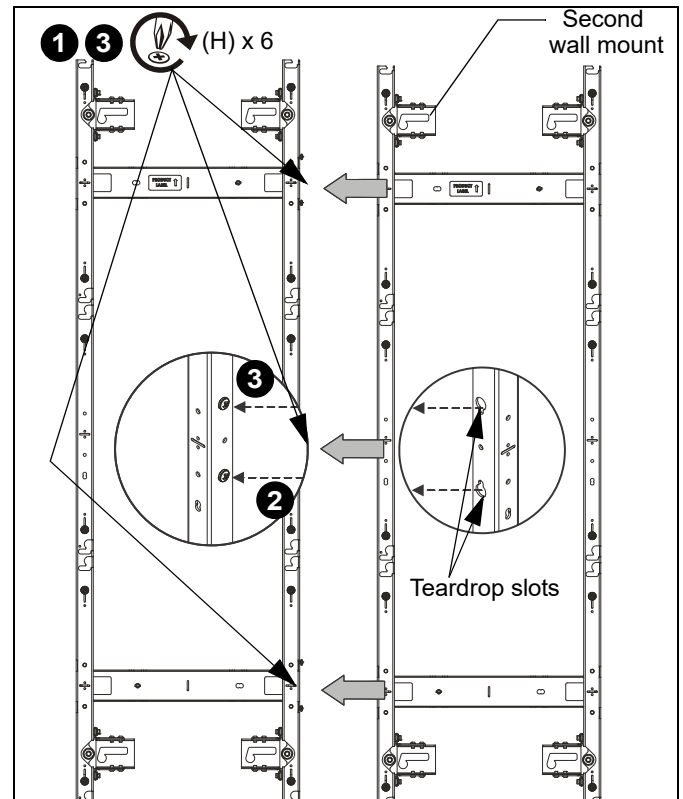

Figure 13
- Hang the second mount (using lower teardrop slots on the left side) onto the fasteners installed in Step 1. (See Figure 13)
- Level mount then insert and tighten fasteners through teardrop slots above each of the fasteners installed in Step 1. (See Figure 13)